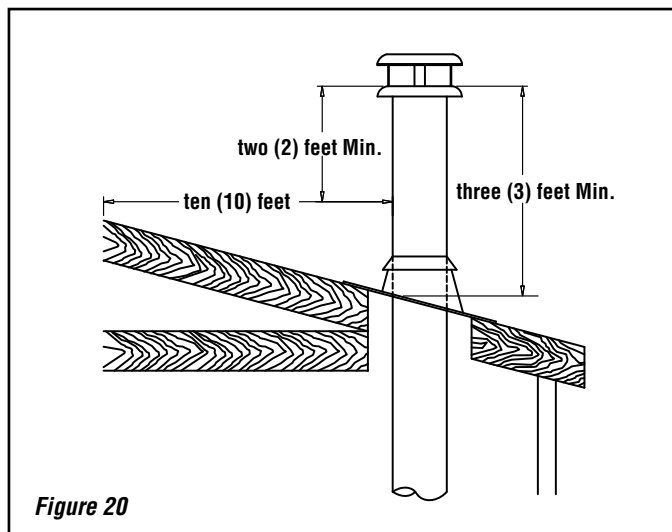

Figure 20
5. All chimney installations must include at least one support in order to be able to take any lateral load. The maximum chimney length that can be supported by the fireplace is nine (9) feet (2.75 m) for Secure Temp S2100+ / Nova Temp HT6000+ / Secure Temp GX and 26 feet (8m) for ACBI (air cooled) chimney. In altitude, add 18" (450 mm) to the chimney for every 2,000 feet (600 m) above sea level.
6. The chimney must extend at least three (3) feet (915 mm) above its point of contact with the roof and at least two (2) feet (610 mm) higher than any wall, roof or building within ten (10) feet (3 m) of it (**Figure 20**).
7. If the chimney extends higher than five (5) feet (1,500 mm) above its point of contact with the roof, it must be secured using a roof brace.